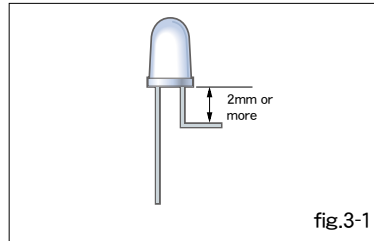

fig.3-1
- ① The lead should be bent at a point 2mm away from the root of lead. One place shall be bent only once. (fig.3-1)